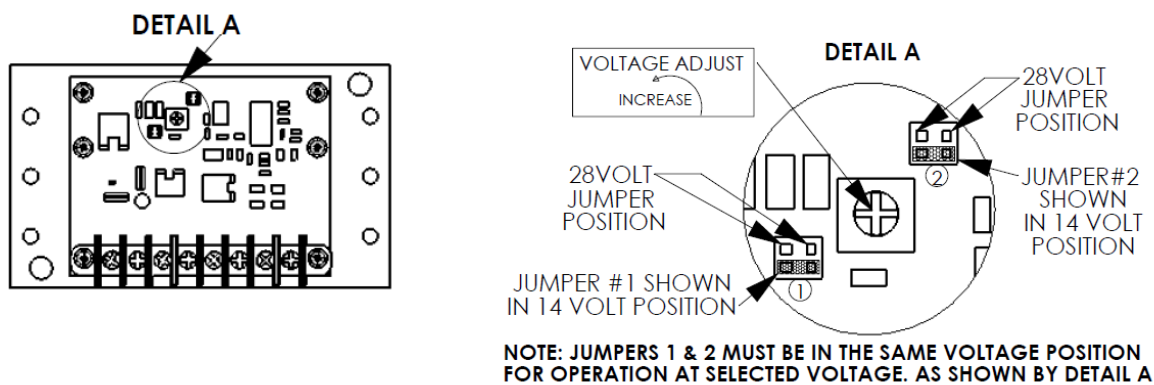

Figure 9 – Voltage Regulator Voltage setting check
26. Remove the regulator cover and ensure that the internal jumper #1 and jumper #2 are set for 14V. Refer Figure 9.